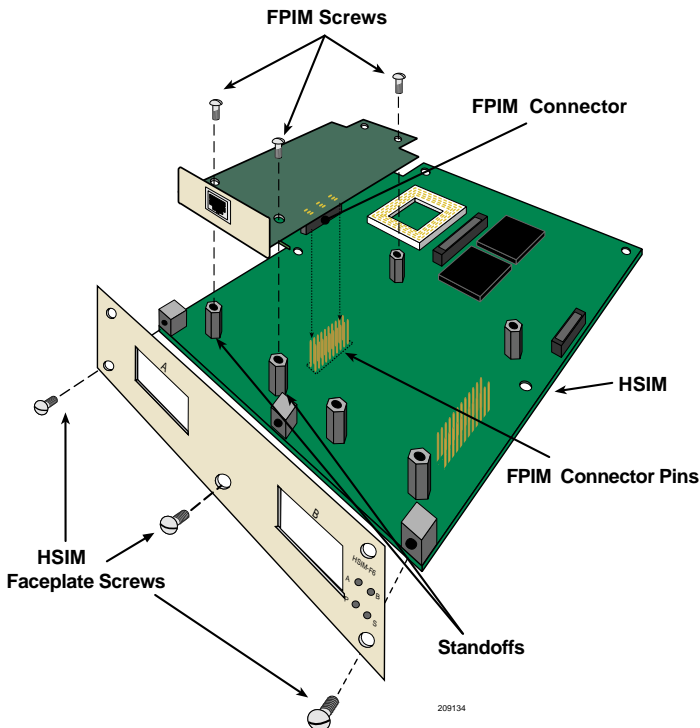

Figure 2-2 Installing FPIMs
3. Refer to Figure 2-2 and remove the three faceplate screws attaching the faceplate to the HSIM-F6. Save the screws.